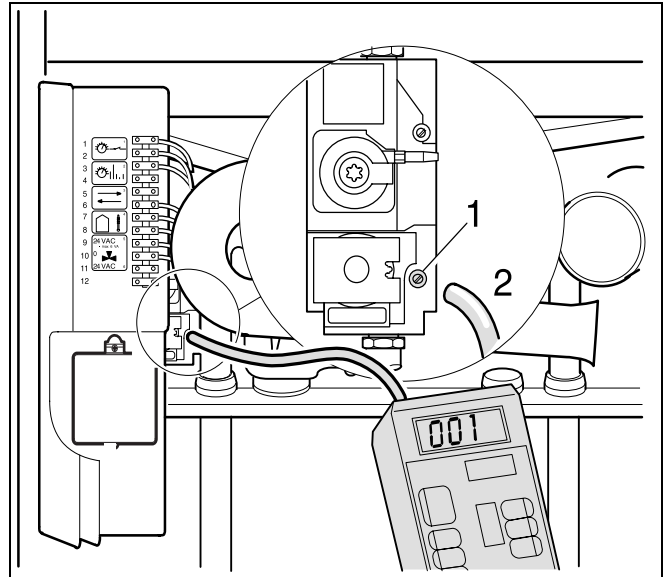
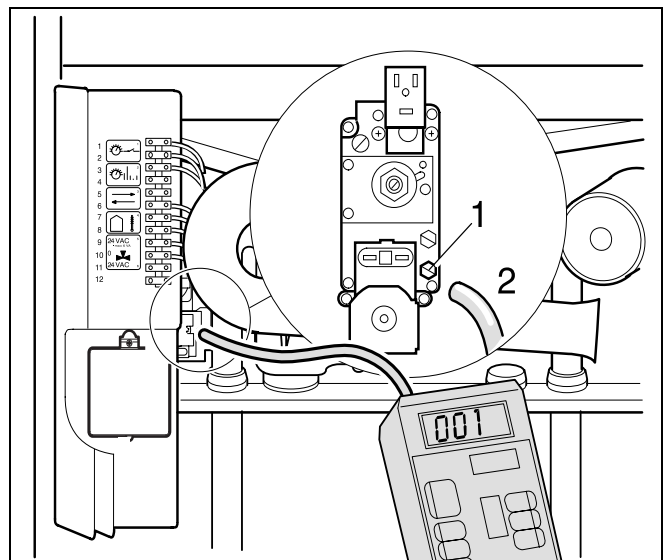

fig. 35 Measuring the gas distribution pressure (Honeywell gas units)
fig. 36 Measuring the gas distribution pressure (SIT gas units)
nipple on Honeywell gas units (fig. 35, item 1) two turns,
fully unscrew the plug on SIT gas units (fig. 36, item 1).
nipple (fig. 35, item 2 or fig. 36, item 2).